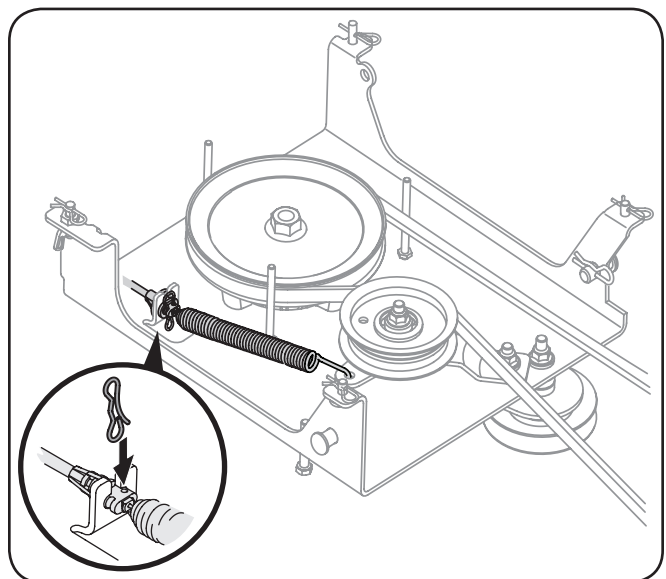

Figure 3-2
2. Attach the spring on the end of the PTO cable to the idler bracket, then fit the cable into the slotted fitting and secure it in place with the hairpin clip as shown in Figure 3-2.